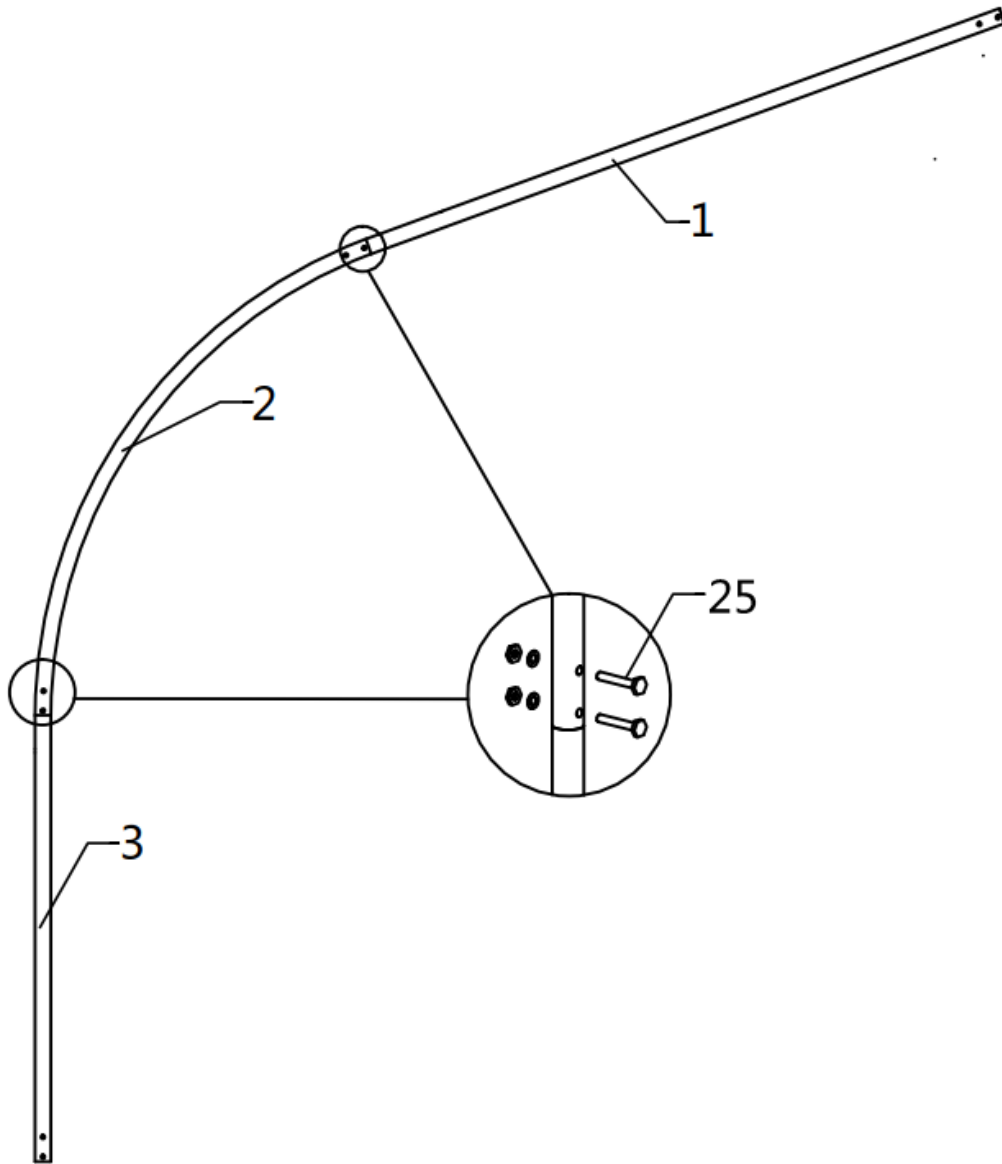

Figure 3
- Install the remaining truss (refer to figure 3).